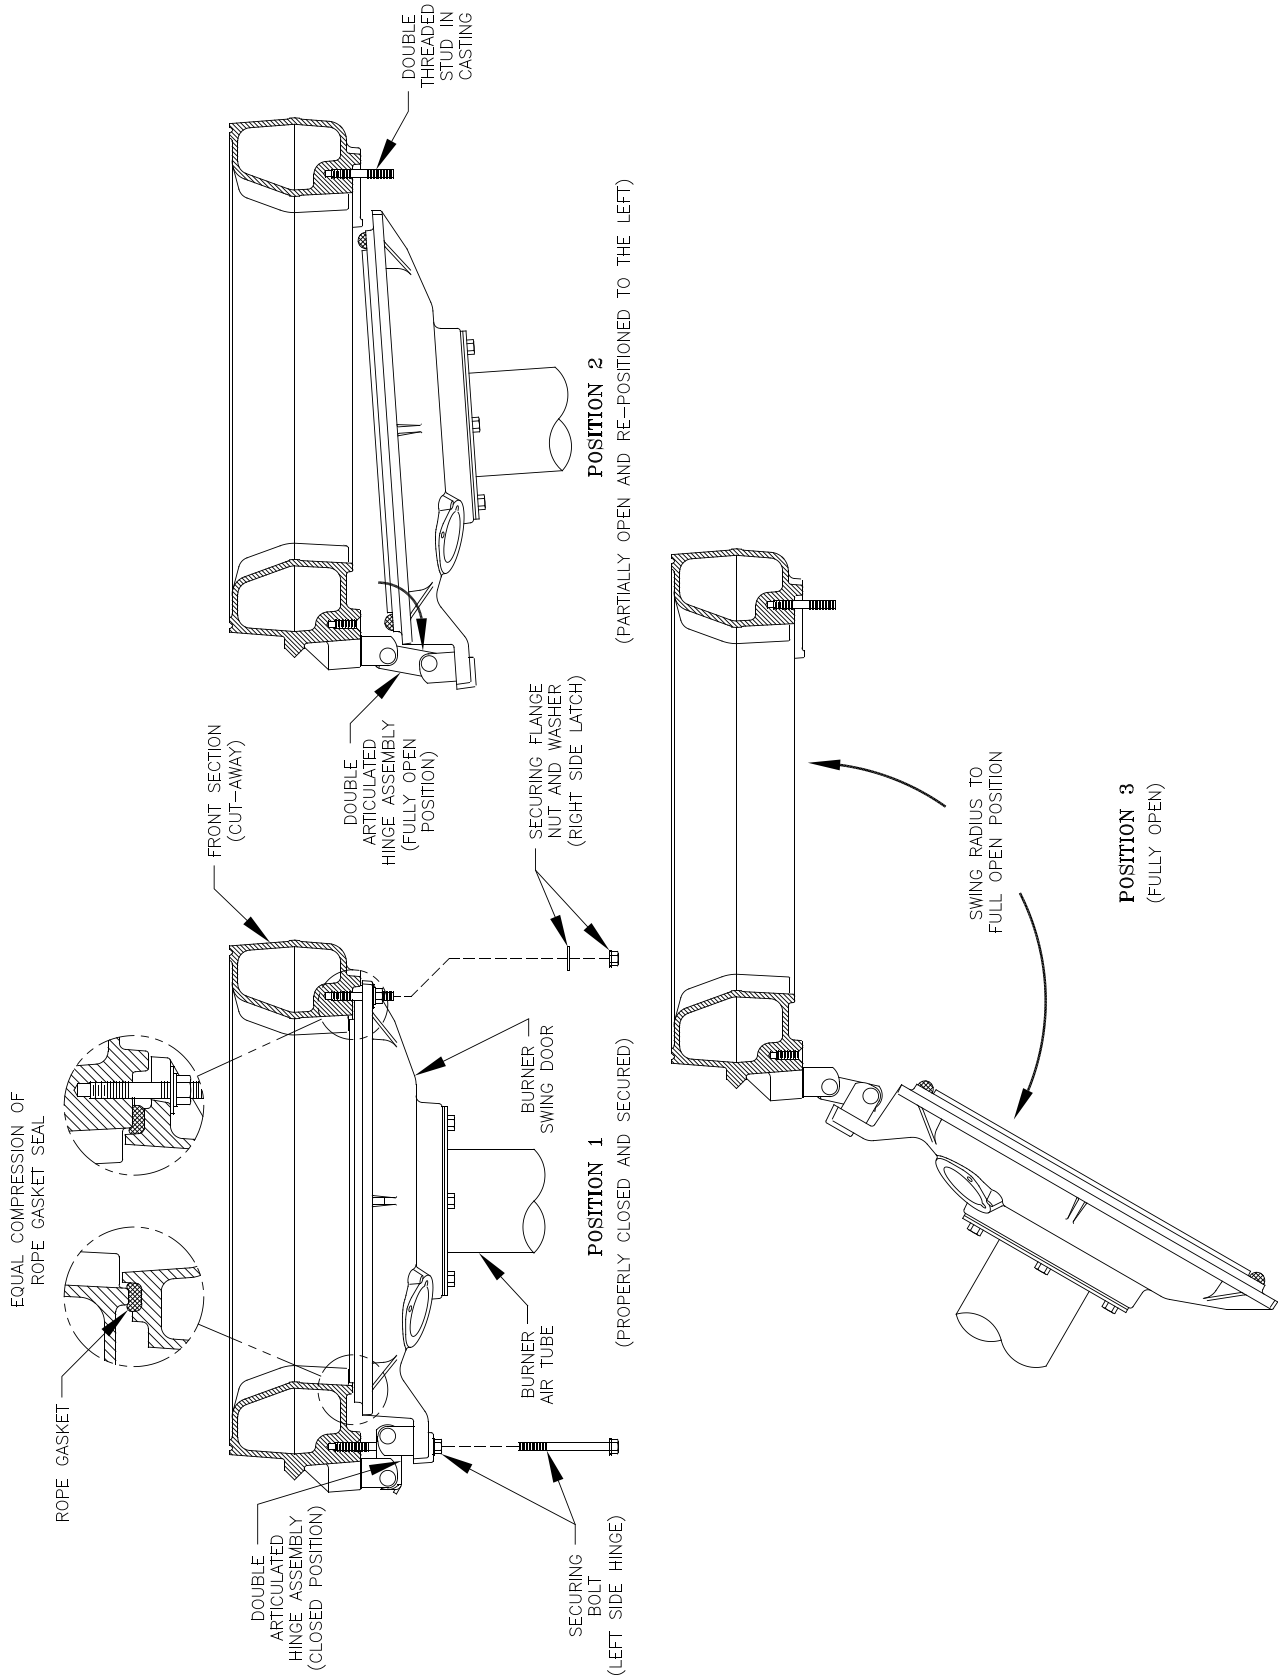

Figure 12B: Top View - Burner Swing Door Mounted to Cast Iron Block Assembly (Jacket Removed for Clarity)
Step 3. The duel pivot articulated hinge allows right side of door to be pulled outward and rotated to the left all in one motion. To do so, place your right hand under burner air tube and lift up slightly to help carry the weight of the door and burner. Use your left hand to grasp the door's left side hinge flange, pull outward to rotate the hinge, this motion will move the door outward and to the left approximately 3" (see Figure 12B, Position 2).
Step 4. From this position the door can be swung clear of the vertical circulator return piping to provide full access to the combustion chamber and burner head (see Figure 12B, Position 3).
Step 1. From the fully open position, rotate Burner Swing Door toward the closed position. Make sure that the articulated hinge is rotated to the extreme left position to allow the door to clear the vertical circulator return piping as shown in Figure 12B, Position 2.